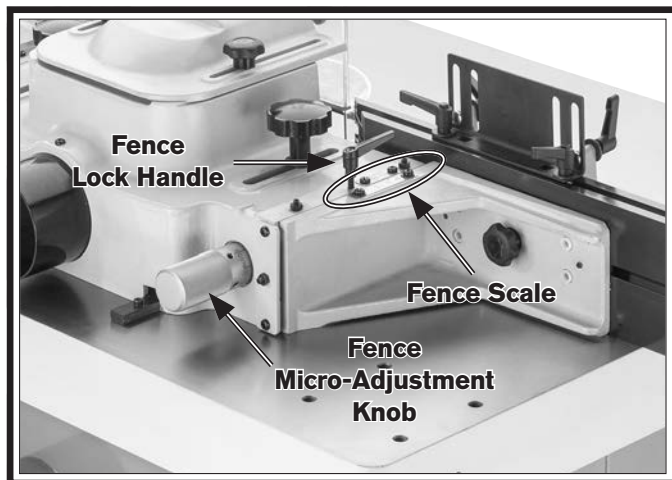

Figure 47. Fence zeroing components.
2. Loosen both fence lock handles (see Figure 47).
3. Set both infeed and outfeed fences to 0" by turning micro-adjustment knob all the way counterclockwise (see Figure 47).